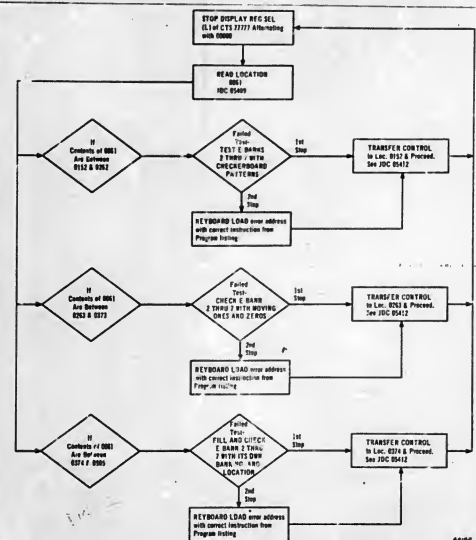

Figure 2. STOP Flowchart
17. Compare the address read out with those specified on Figure 2. The address will be numerically within a specific group on a particular flowgram. (For example, an address read out of 202 would pertain to the first flowgram of Figure 2, TEST EBANKS 2 THRU 7 WITH CHECKERBOARD PATTERNS). Follow the instructions shown in the selected flowgram, and if the program fails to reach a successful conclusion discontinue further testing.